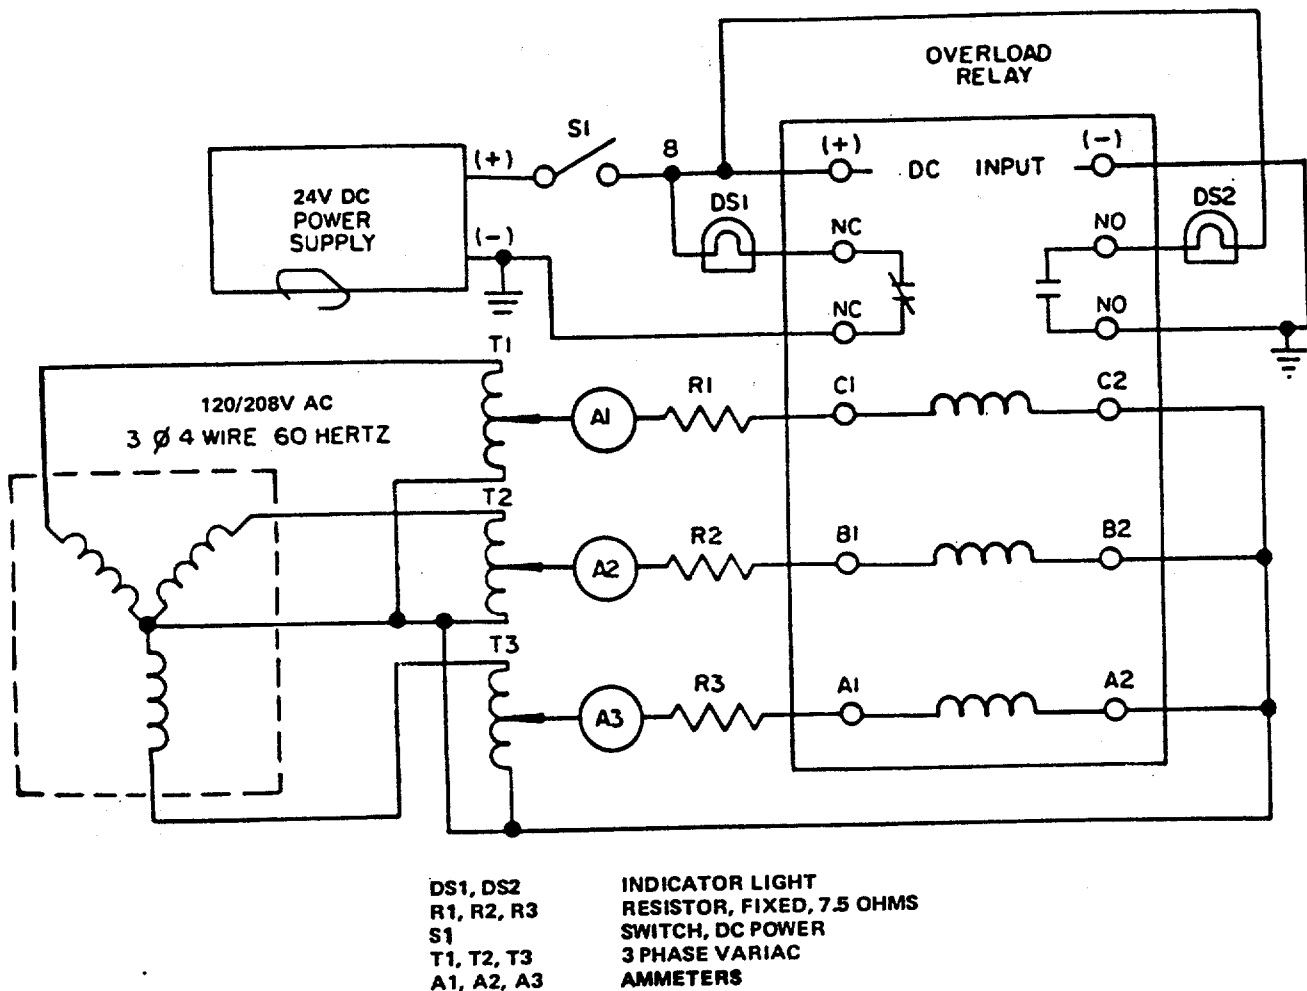

Figure 5-13. Overload Relay K114, Test Setup
- (1) Test
- (a) Connect the relay in the test setup shown in figure 5-13.